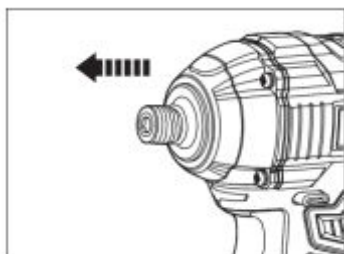

Fig.3
- Pull the locking sleeve of the tool holder (**Fig. 3**).